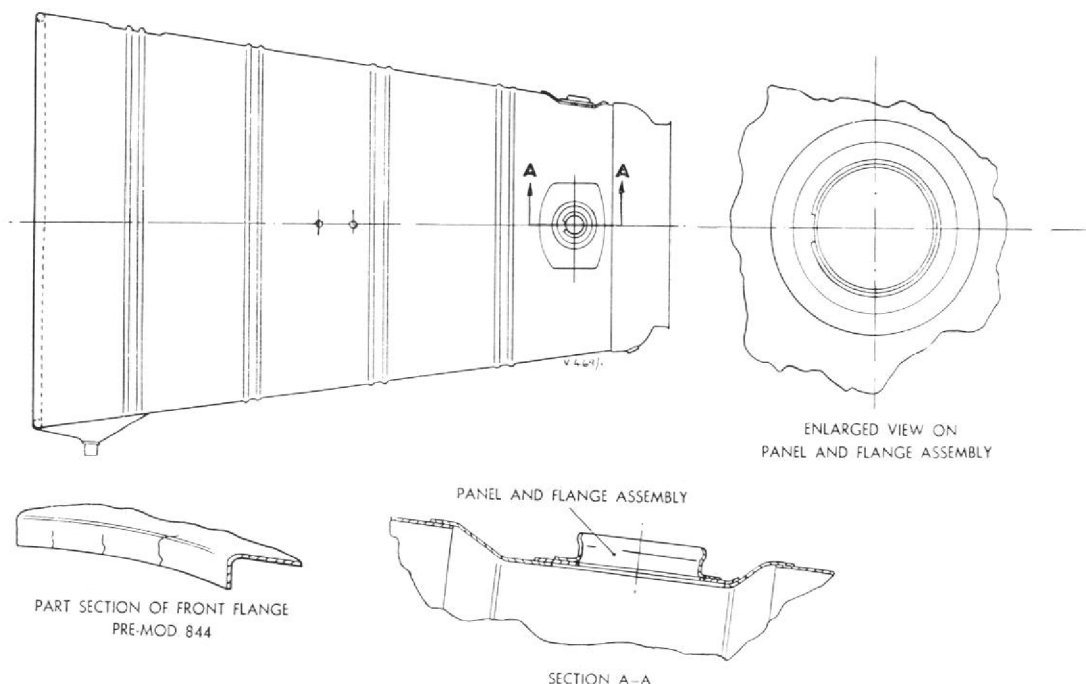

Fig. 12. View of the fireguard showing thermocouple flanges and location of cracks in front flange.
Any fireguard assembly (Ghost 48 Mk. 1, 48 Mk. 2, or 53 Mk. 1) in which cracks, not exceeding 1.000 inch in length, have occurred in the skin, or in which any one, or more, of the thermocouple flanges has become damaged, may be repaired in accordance with these instructions. Furthermore, fireguard assemblies, pre-mod. 844, in which cracks, not exceeding 0.500 inch in length, have occurred in the front flange, Fig. 12, may be repaired by applying the appropriate section of these instructions.
4. Position the replacement assembly central to the hole in the fireguard, ensuring that the slot in the flange is facing the front (large) end of the fireguard, refer to Fig. 12.